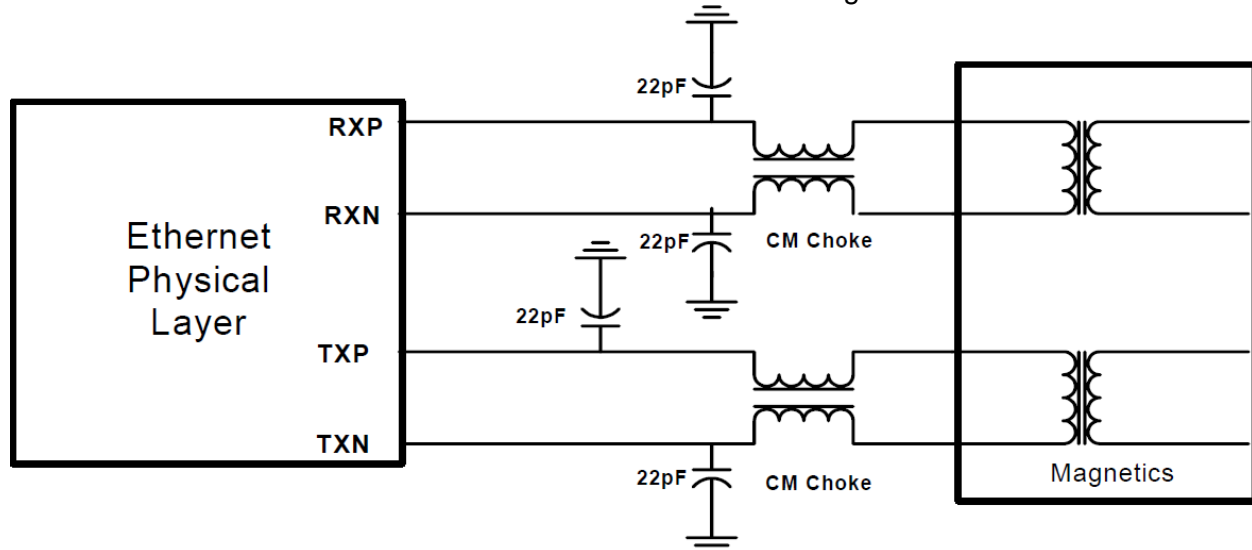

Figure 6-4: Common Mode Chokes on TX and RX pairs
- Common mode chokes may be added to the TX and RX differential pairs as shown below in Figure 6-4. The common mode chokes should be placed within 10mm (approx 400mils) of the integrated RJ45 module, and on the magnetics side of the common mode EMI suppression capacitors. Typical common mode impedance of the common mode choke selected should be 2Kohm @ 100 MHz or higher.